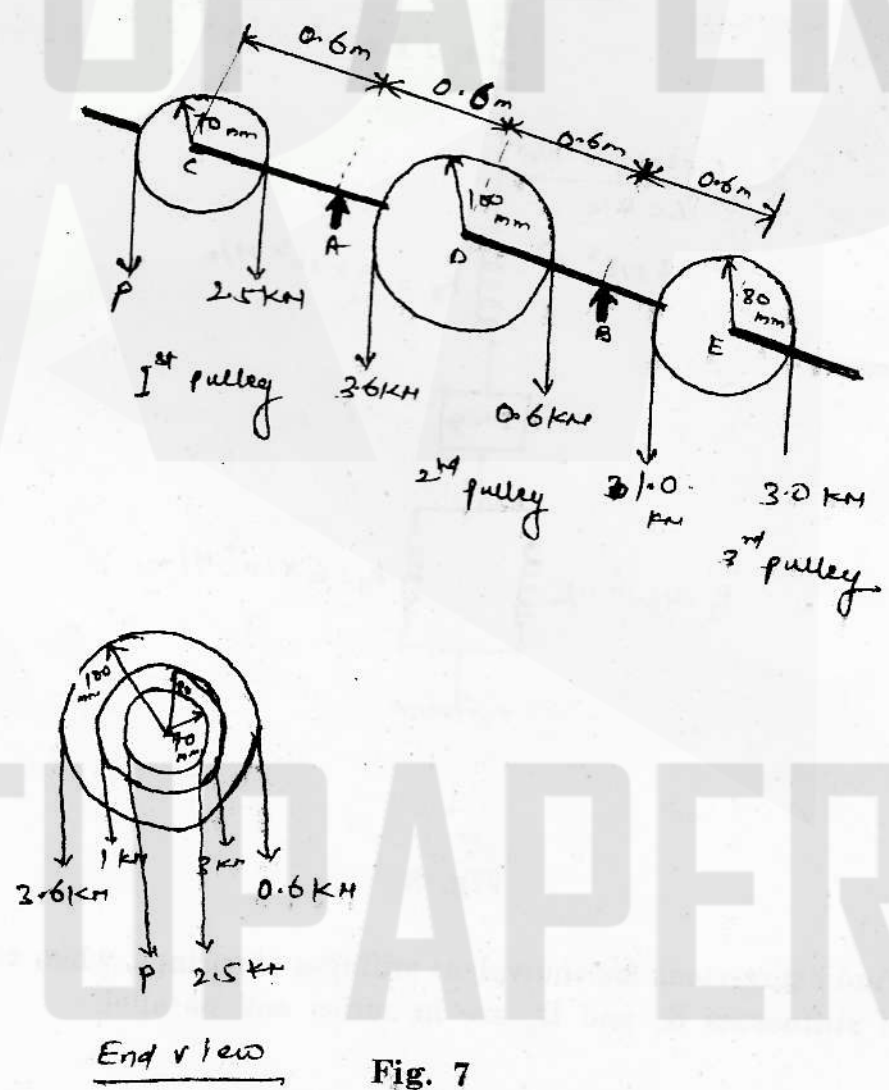

Fig. 7
- (b) A solid circular shaft of constant cross-section carries three pulleys as shown in fig. 7 below and is supported in Bearing at A and B. Calculate an unknown tension P on the belt of the first pulley. The pulley belts are all vertical. Also determine reactions at supports and draw S.F. and torque diagrams.